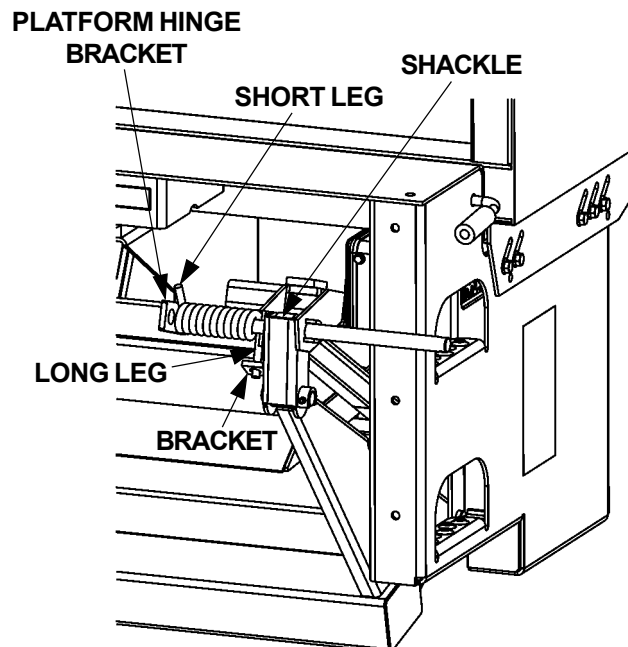

FIG. 14-2
4. Install the Torsion Spring as shown in (**FIG. 14-2**). Make sure the long leg of the spring is inserted in the bracket located on the Shackle. Make sure the short end of the spring is visible, as shown **FIG. 14-2**.